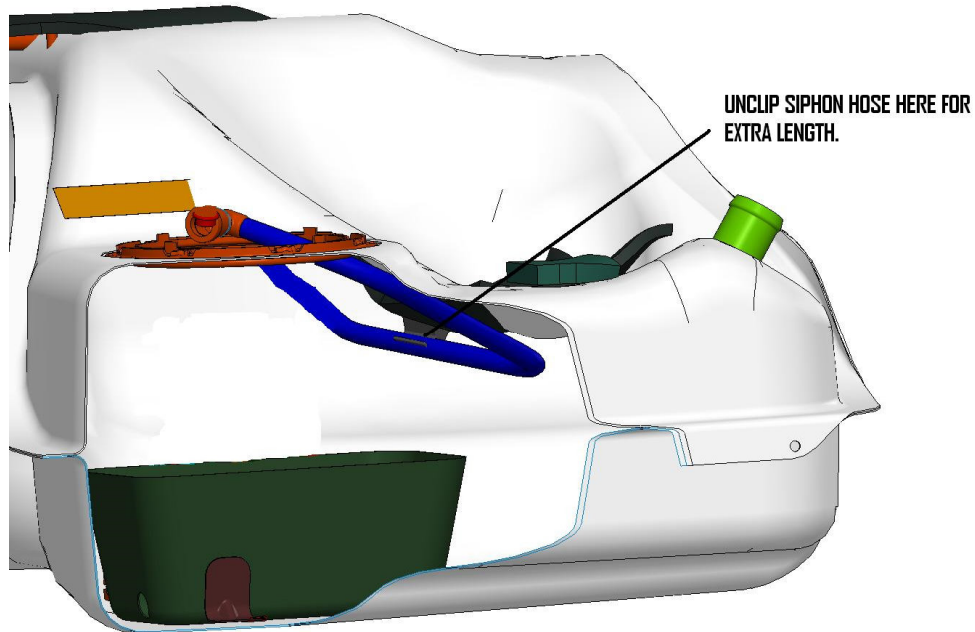

FIGURE 1-8
13. Before placing your new Aeromotive Stealth fuel pump in your tank, make sure the factory pump seal is clean and positioned correctly. Also unclip the siphon tube from the inside wall of the tank. This will give you the extra length of line to ease installation. **FIGURE 1-8**